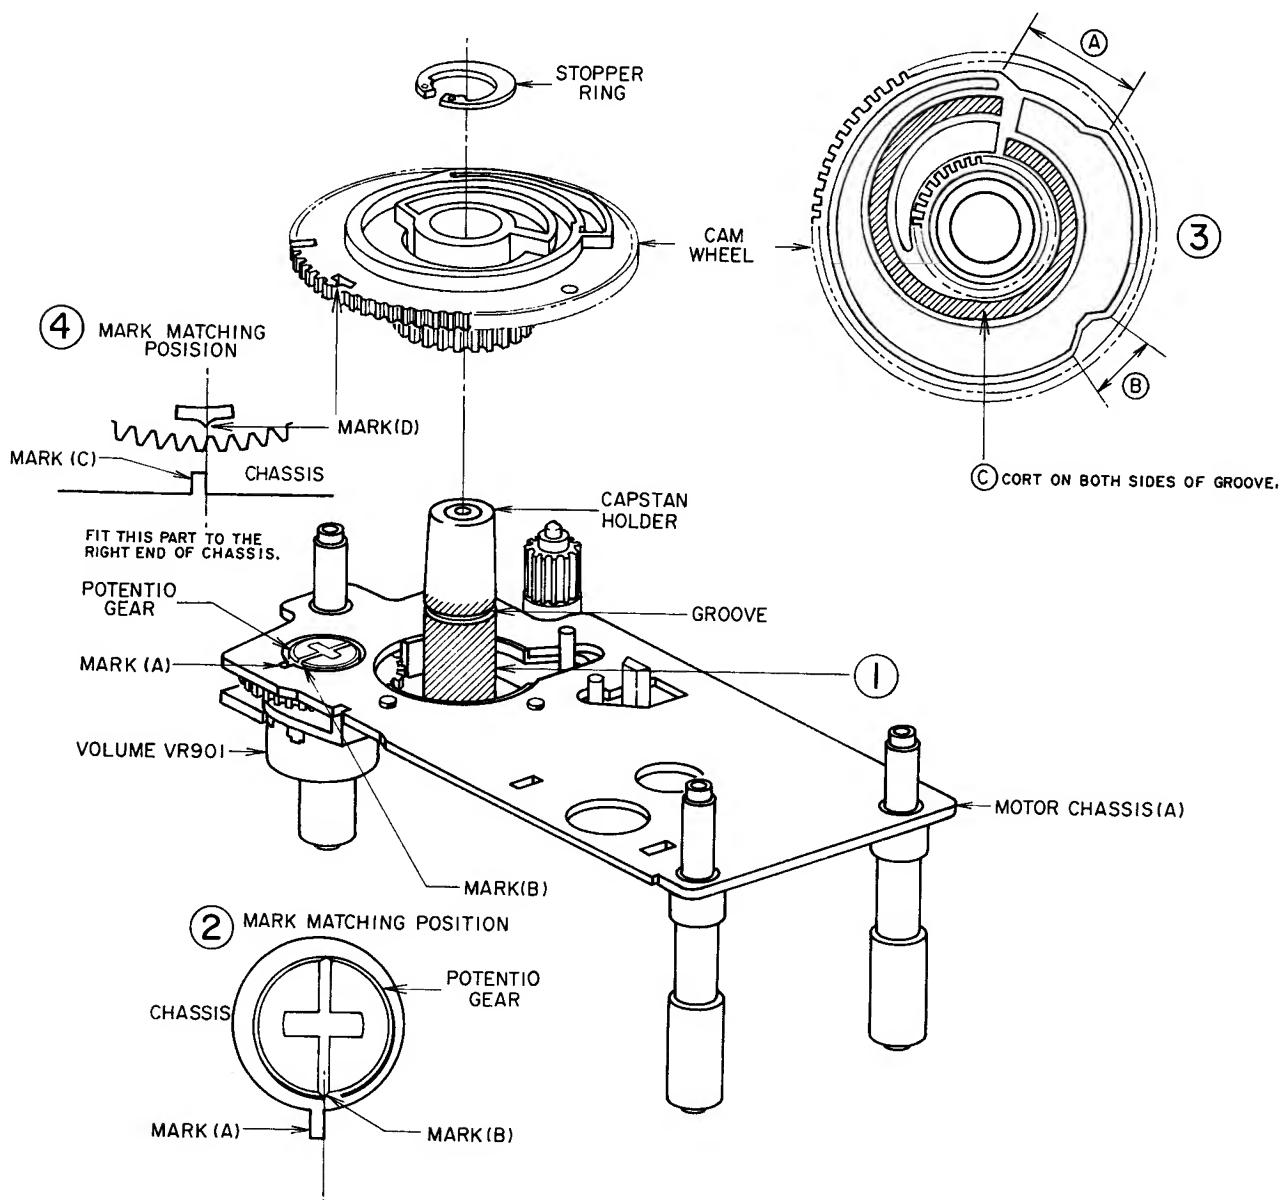

Fig. 2-10
Apply Molybdenum coat on the area of 360° from the bottom to the upside 2 mm of groove as shown in the figure. (Fig. 2-10-①)
Fit the right end of Mark (A) to the center of Mark (B) as shown in the figure. (Fig. 2-10-②)
- 3) Apply Molybdenum coat on ④, ⑤ and ⑥ shown in Fig. 2-10-③.
(Ensure that the cam wheel and potentio gear are meshed properly). When the cam wheel is set properly, fit the center of Mark (D) to the right end of Mark (C). (Fig. 2-10-④)